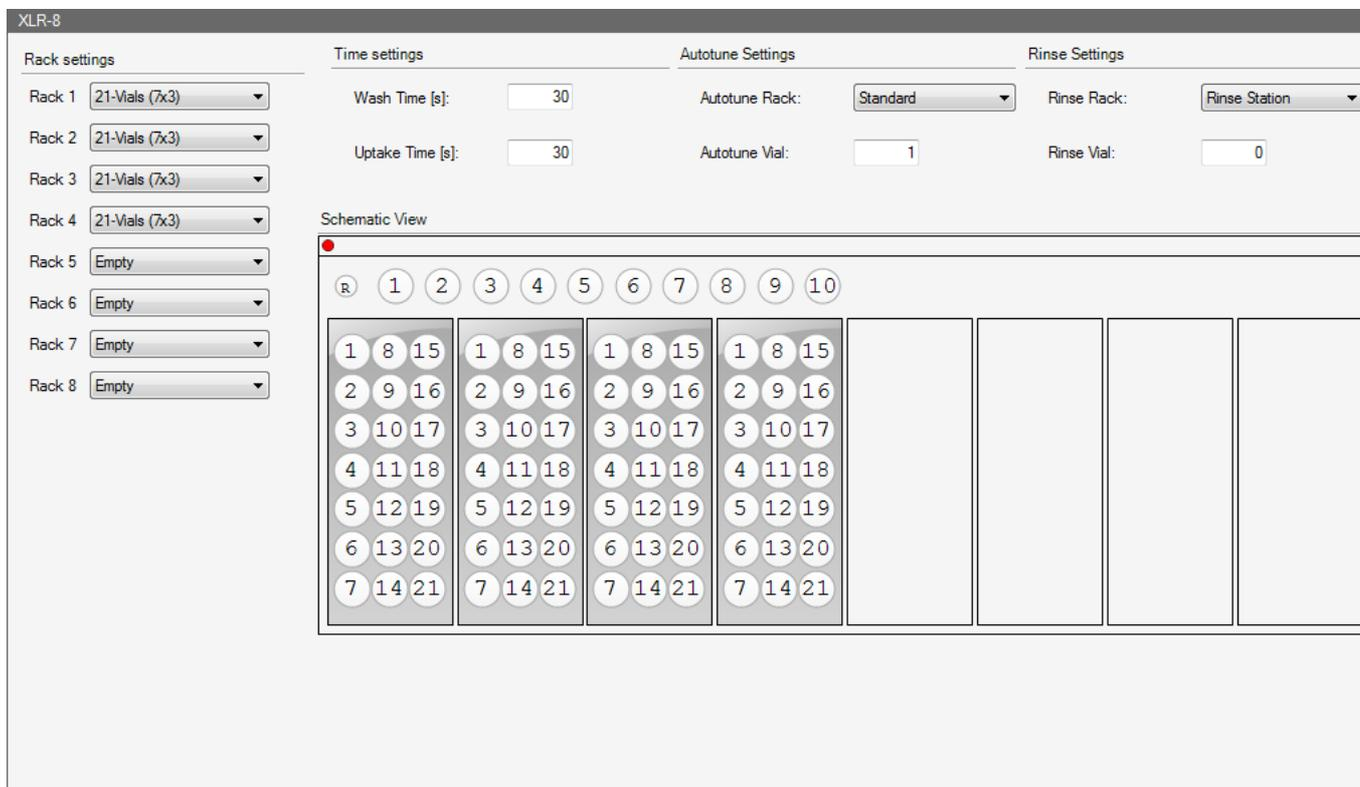

Figure 14-4. Teledyne CETAC XLR-8 settings
2. Click  to open the autosampler view, see Figure 14-4.